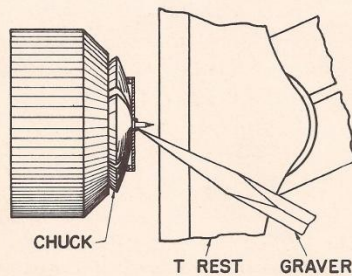
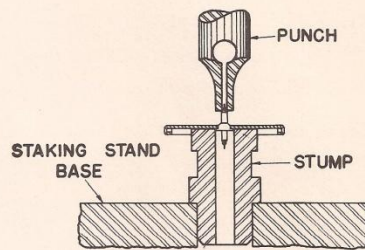

Figure 2
Figure 3
*When replacing a broken balance staff it is advisable to remove the old staff by under cutting the hub as shown in Fig. 2, and removing the staff as shown in Fig. 3. This prevents bending the arms up or down, or enlarging the hole in the balance. After restaking in the usual manner, the balance wheel will have the proper clearance between the third and four wheels.*
**SPECIAL NOTE:** We recommend turning off the lower shoulder of the balance staff as shown in Fig. 2, because the staking and "rolling-in" operations tend to work-harden the steel under the collet at the top—making it more difficult to turn.